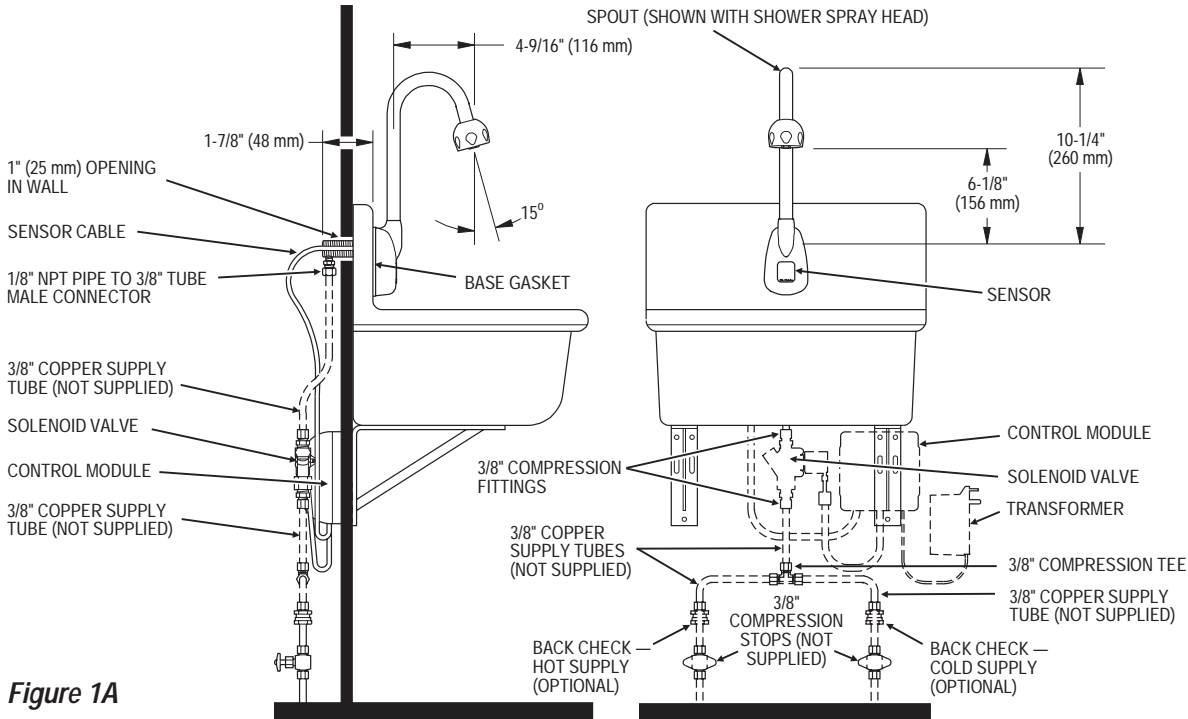

Figure 1A
Prior to installing the Sloan OPTIMA Series Faucet, install the items listed below. Also, refer to Figures 1A and 1B.
The Sloan OPTIMA ETF-500 Sensor Operated Gooseneck Faucet is a pre-tempered faucet. A pre-tempered water supply line or a mixing valve (ordered separately or supplied by others) must be used in conjunction with the faucet. When connecting the faucet to a hot and cold water supply, it is recommended that two back checks be installed as shown in Figure 1A. Water temperature can be controlled by adjusting the supply stops. When connecting the faucet to a single line water supply or a pre-tempered water supply, a back check is not required.
Step 4 — Connect Supply Line(s) (Figures 1A and 1B)
When connecting the Faucet to a hot and cold water supply, two Back Checks are required as shown in Figure 1A.
Install a 3/8 inch copper Supply Tube between each Back Check and the Compression Tee Fitting supplied (refer to Figure 1A).
Refer to Figures 1A and 1B — Faucet Rough-In for Additional Information.